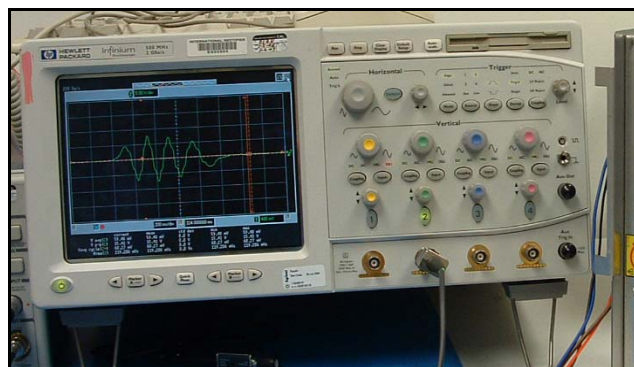

Figure 3—Counting the number of poles. This motor has 8 poles.
3. Motor Poles—Connect two phases of the motor to an oscilloscope. Turn the motor through one revolution and record the back-emf waveform on the 'scope. Count the total number of positive and negative peaks, which should be an even number. Figure 3 shows an 8-pole motor. (It can be difficult to get exactly one revolution without extra peaks. One trick is to turn the motor through several revolutions and then divide by the number of revolutions.) Note that the motor will still spin if this parameter is not set correctly. However, the mechanical speed of the motor will differ from the requested speed by a factor of [entered poles] / [actual poles].